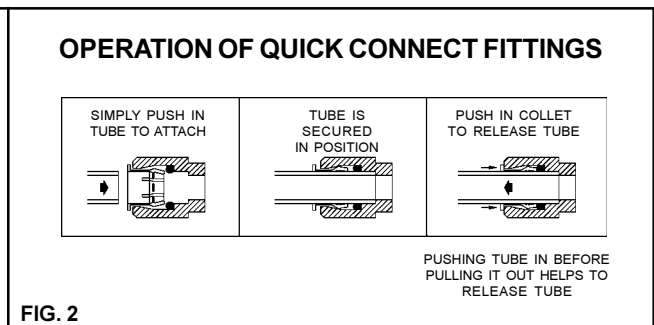

FIG. 2
5. **Remove bottom access panel** from fountain basin and save the screws. Install the fountain to the back panel and wall using (4) 5/16 " x 3/4" long bolts and washers (provided) thru holes in back panel. Washer used on bottom two (2) holes only. Tighten securely.
7. **Make water supply connections** from service stop to the fountain strainer. Insert the water inlet line into the inlet side of strainer until it reaches a positive stop - about 3/4" (See Fig. 2). Turn on water supply and check for leaks. Newly installed water supply line should be insulated after leak check is completed. **DO NOT SOLDER TUBES INSERTED INTO THE STRAINER AS DAMAGE TO THE O-RINGS MAY RESULT.**